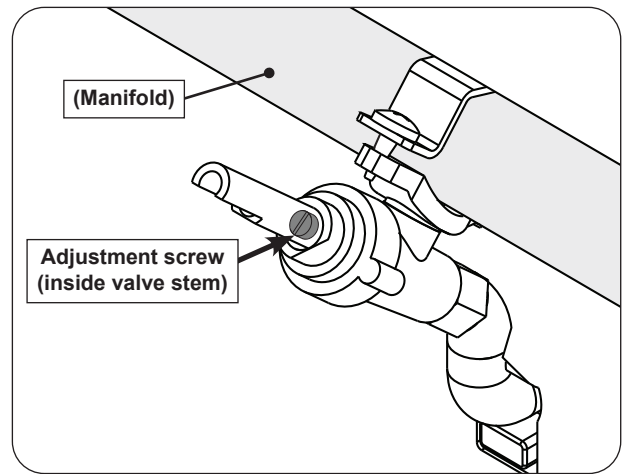

Fig. 35-1 Valve adjustment screw location
3. Locate the FLATHEAD adjustment screw found inside the valve stem (see Fig. 35-1).